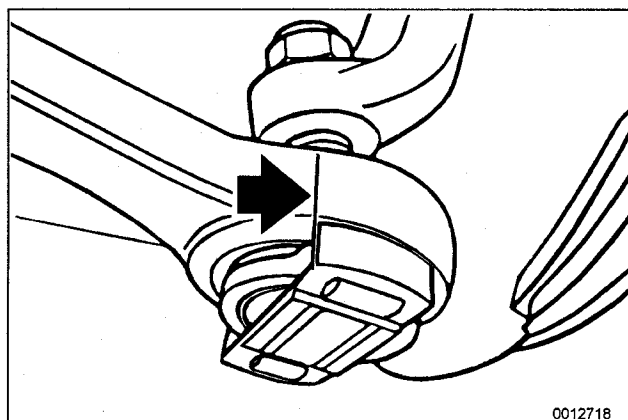

Fig. 10. Mark installed position of ball joint guide to control arm (arrow).
- Mark position of ball joint guide to control arm. See Fig. 10.